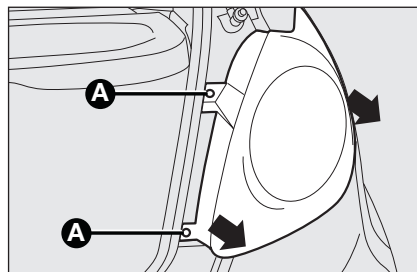

fig. 19
- ☐ unscrew the two fastening screws **A-fig. 19** and extract the light cluster axially without rotating it;